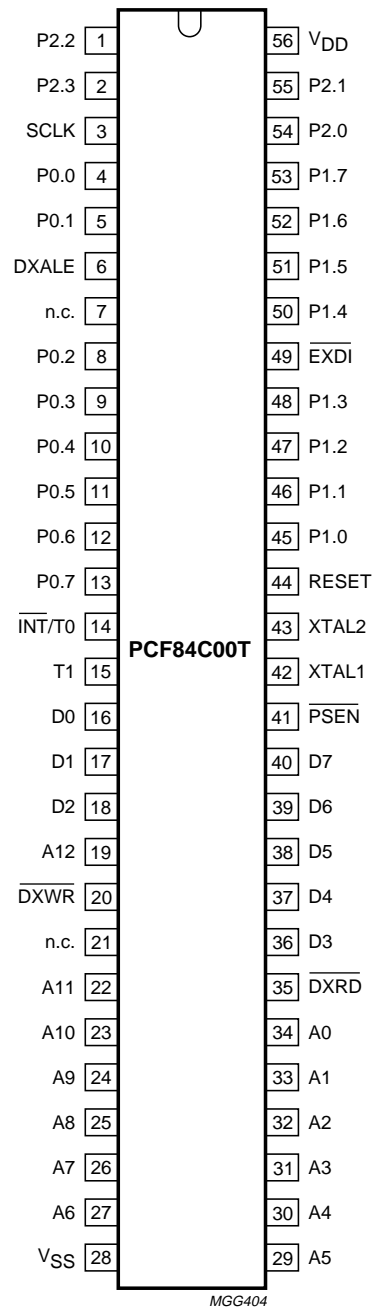

Fig.5 Pinning diagram; ROM-less version PCF84C00T.
**Table 2** PCF84C00T (see Fig.5)
The PCF84C00T microcontroller contains no on-chip ROM, but has all address and data lines brought out to access an external ROM or EPROM. Consequently, this version has more pins (see Fig.5) than the devices in the PCF84CxxxA family with on-chip or 'piggy-back' ROM. The PCF84C00T can address up to 8 kbytes of external program memory, and has 256 bytes of internal data RAM.